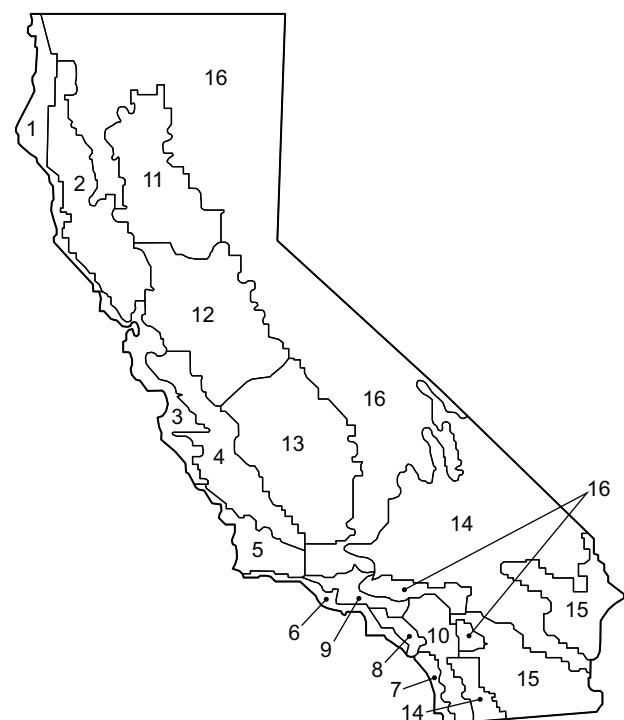

Fig. 73 — California Title 24 Zones
- b. See Fig. 73 for map of California Title 24 zones.